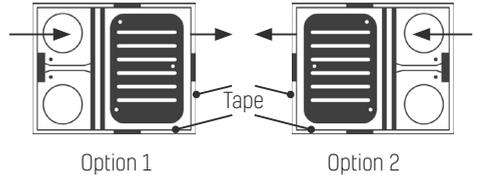
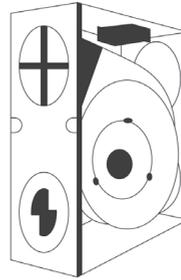

Fig.1 Back panel showing direction of air flow
Fig.2 Central Carcass
2. Decide if the installation required is a left-handed or right-handed unit. This can be determined by using the back panel (Fig.1, option 1 or 2) and the central carcass (Fig.2).
3. Remove the backing tape from the back panel (Fig.1) and offer up to central carcass (Fig.2) ensuring that the filter guides match up.
6. Offer up the back panel and the central carcass to the ducting* [also end panel A if the air intake is through the end]. Ensure that the cables leave the unit through the cable exit on side panel. Fix the unit using the five fastening points on back panel (Fig.1).